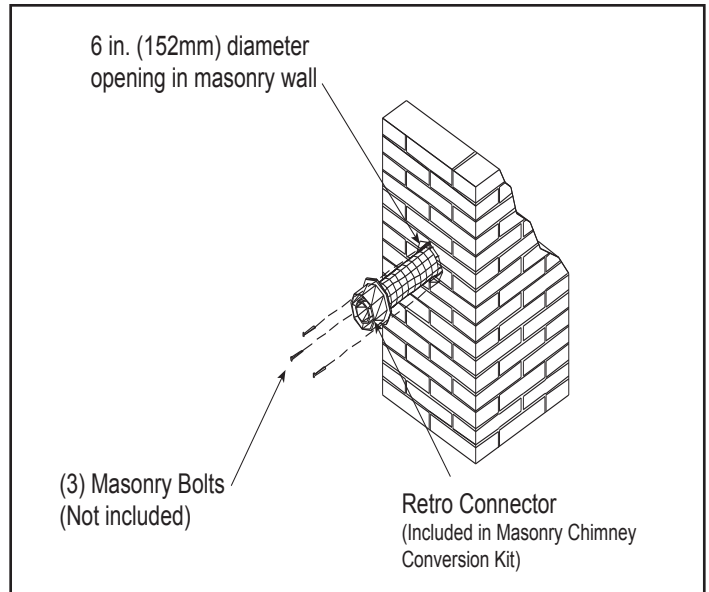

Figure 4.29
- Attach the flex to the retro connector. Use three sheet metal screws to attach the flex liner to the connector. Mount the retro connector to the masonry wall using masonry bolts. See Figure 4.29. Redrill larger holes on connector as needed. Be careful to ensure that the connector is centered in the opening and the mounting holes line up with the masonry wall.